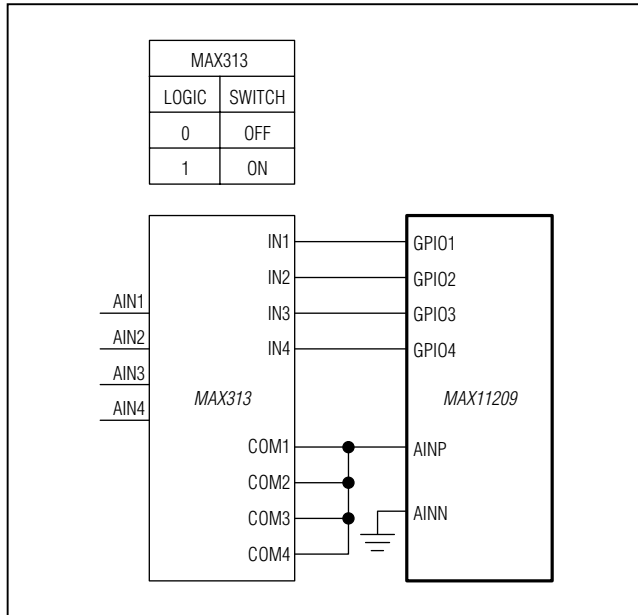

Figure 3. MAX11209 GPIOs Drive an External 4-Channel Switch (MAX313)
The devices provide four GPIO ports. When set as outputs, these digital I/Os can be used to drive the digital inputs to a multiplexer or multichannel switch. Figure 3 details an example where four single-ended signals are multiplexed in a break-before-make switching sequence, using the MAX313, a quad SPST analog switch.
**Table 4a. Data Command to Select Channel AIN1 in Figure 3**
**Table 4b. Set All Channels High Impedance in Figure 3**
Table 4c. Data Command to Select Channel AIN3 in Figure 3